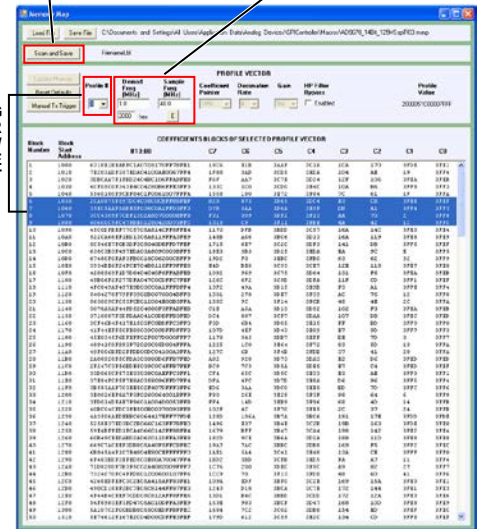

Figure 3. Memory Map Window
5. From the **Config** menu, click **Launch Memory Map Dialog** to open the **Memory Map** window, as shown in Figure 3. Click the **Load File** button to open the AD9670_14bit_125MSspiR03.mmp file, which loads the coefficient and profile memory data into the AD9670.